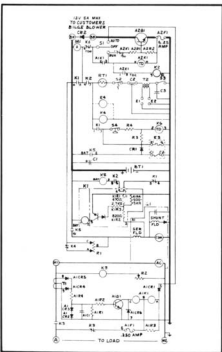
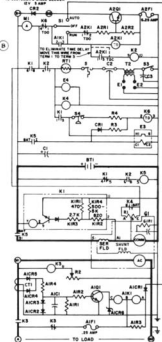

FIGURE 5-5. BILGE BLOWER ON (SPEC D)
FIGURE 5-11. CONTROL-O-MATIC CONTROL MCCK GENERATING SET (SPEC D)
- If necessary to test engine cranking circuit, temporarily bypass bilge-blower control relay A-K¹ by moving lead at terminal 1 on A-K¹ to terminal 3, Figure 5-11. This lead comes from A1-3 (single lug). If unit cranks with the bilge-blower control disabled, the problem is in the bilge-blower control circuit. Refer to Figure 5-5.